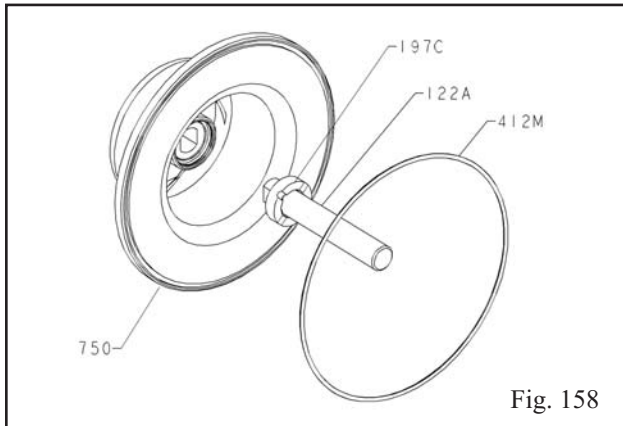

Fig. 158
8. Slide reverse thrust bearing (197D) on shaft (122A). Press shaft (122A) into containment shell (750).
9. Coat O-ring (412M) with O-ring lubricant. The lubricant is used to help the O-ring remain in place. Insert O-ring in containment shell (750). (Fig. 158).